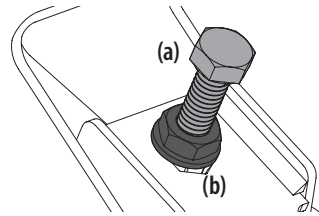

Figure 38
3. Locate the adjustment bolts (a) on the left and right side of the deck. See Figure 38.
4. Loosen, but do not remove, the jam nuts (b) on the adjustment bolt. Adjust either the right or left adjustment bolt up or down as necessary until the side-to-side heights are equal. See Figure 38.
5. When proper adjustment is achieved, re-tighten the jam nuts (b). Tighten to 57 ft-lbs (77 N-m). See Figure 38.